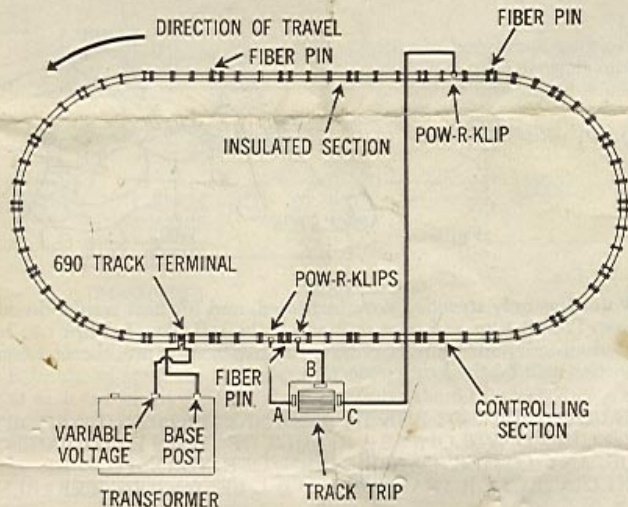

Fig. 4
Two trains can be run on the same track layout by using (1) #26672 Track Trip as shown in Fig. 4. Replace (3) steel track pins with fiber pins and attach (3) Pow-R-Klips as shown. Wire up as shown.
Lock remote control reversing unit in locomotives so they will run in a forward direction. Place the two trains on the track facing in direction of travel shown in Fig. 4 so the loco of one train is on the insulated section of track and the loco of the second train is to the left of the #690 Track Terminal.